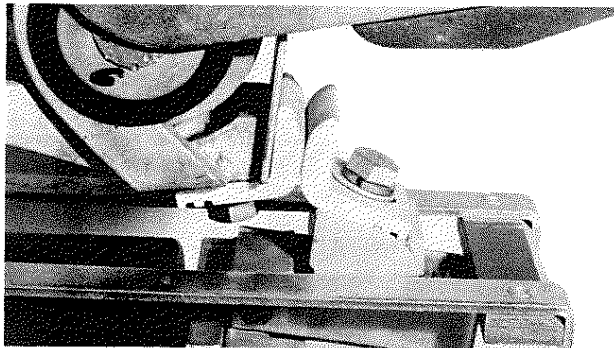

Figure 2
2. Check that the proper slot in the contact tip is engaged on the ridge located on the auxiliary arm (12) using Figure 5 for repositioning a worn contact tip and using Figure 2 for a new contact tip.
3. Check that the stationary contact tip is against the stationary support seat or the blowout coil guard (3) (Fig. 2).
4. Check that the contact tip surfaces are aligned both vertically and horizontally (Fig. 2).
The contact tips should be either repositioned or replaced when the contact follow-up is less than 1/16" (Fig. 5). The movable contact tip can be adjusted for additional tip life by repositioning so that the proper slot in the movable contact tip is engaged with the ridge located on the auxiliary arm (12) as shown (Fig. 5). Align the contact tips to meet squarely by the procedure in the ADJUSTMENT—Contact Tip Alignment instructions in this Service Bulletin using Fig. 5 instead of Fig. 2 for reference.
2. Remove the movable contact tip by removing the silicon bronze hex head cap screw (11), washer (57) and lockwasher (10) located on auxiliary arm (12).
3. Remove the stationary contact tip by removing the silicon bronze hex head cap screw (11), washer (57) and lockwasher (10) located on blowout coil assembly (2).
5. Install the new movable contact tip with the proper slot engaged in the ridge on the auxiliary arm as shown in Figure 2, using the silicon bronze hex head cap screw, washer and lockwasher.